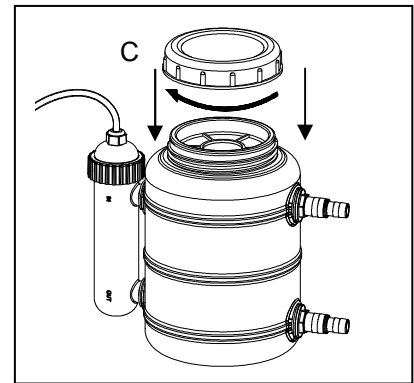

Fig. 8
8. Screw the lid onto the top of the tank. Make sure that it is secure, or the filter will leak. Fig. 8